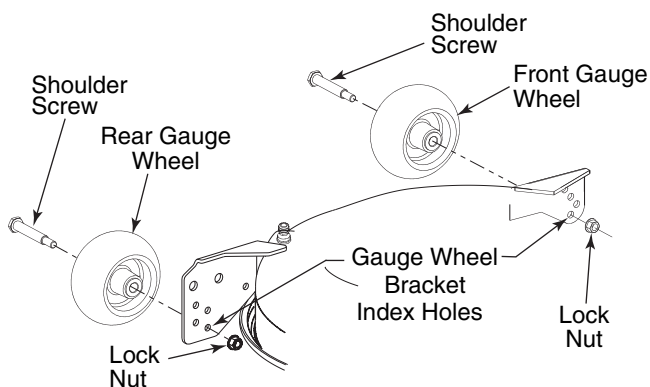

Figure 6-9
- Remove the lock nut securing one of the front gauge wheel shoulder screws to the deck. Remove the gauge wheel and shoulder screw. Refer to Figure 6-9.